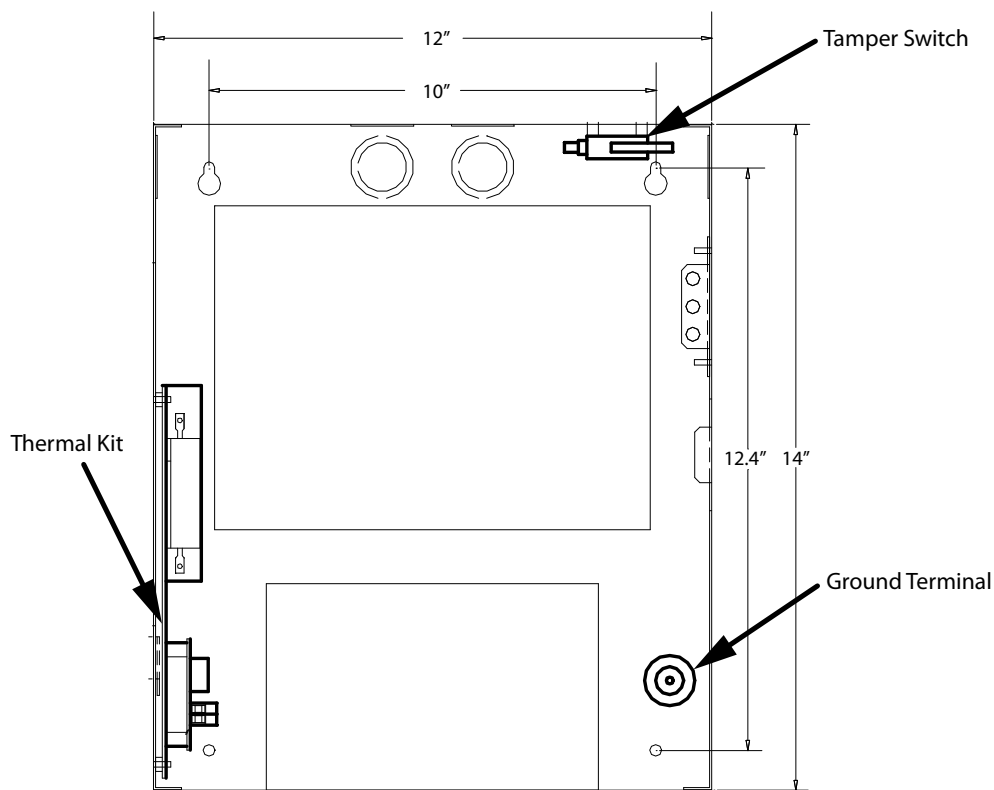

Figure 5. Controller Back Cover Dimensions and Optional Component Location
The Card Access Controller surface mounts with four screws as shown in Figure 5. The back cover is 12 inches wide by 14 inches long. The top two mounting holes are 10 inches apart.
The Card Access Controller enclosure mounts directly on the wall to the wall stud using the mounting screws locations as shown in Figure 5.
2. Using the controller back cover as a template mark the top two mounting hole locations 10" apart as shown in Figure 5.
Install the thermal kit inside the back cover on the left side in the location shown in Figure 5.
The tamper switch is located at the top right corner of the back cover shown in Figure 5. Connect the tamper switch wire to the general purpose input and correlate the opening of the cover to a specific output (action). For a complete description of correlations see Chapter 2 Configurable Features.
The power supply connection is situated at the bottom right of the main controller board and receives 16 Vac, 40 VA. Use 18 AWG wiring. An external PS-4 or PS-4P plug-in transformer connects to the power terminals. Refer to Figure 5 and Figure 10.